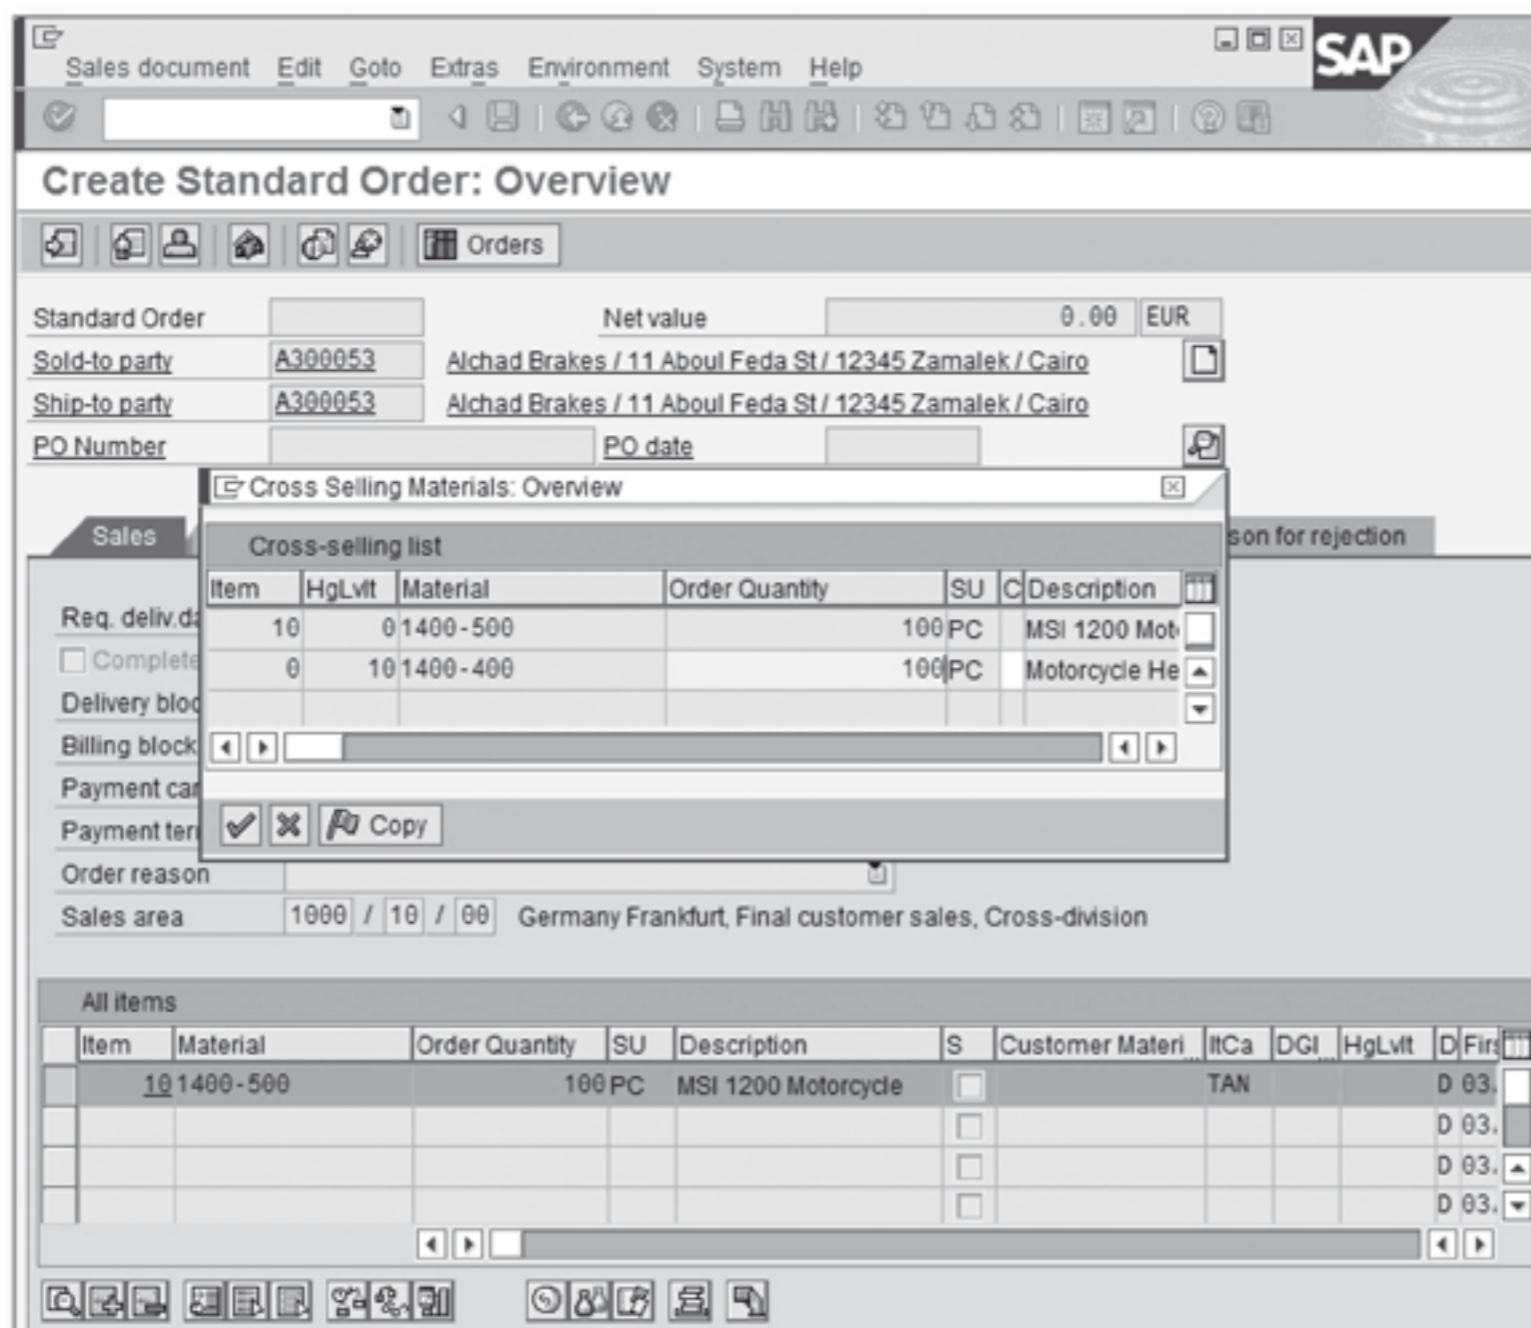

Figure 3.20 Create Standard Order with Cross Selling
4. You'll now see the Cross Sales pop-up window (Figure 3.20), which lists all of the materials that can be sold with the main material. If the customer wants them, you have to enter the quantity and click on the Copy button.